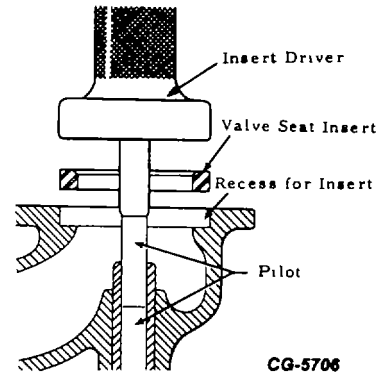

Figure 31. - Installing Insert
3. Press insert into cylinder head using an arbor press and insert driver as shown in Fig. 31. Exert an even pressure of 2225 N•m (500 lbf-ft) for five (5) seconds to assure proper seating.